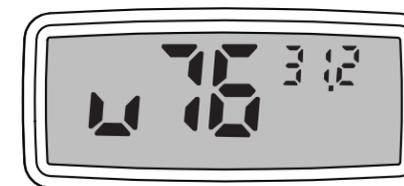

Figure 13 Calibration Mode screen
- Press the II button (on the right) once to get the Calibration Mode screen (Figure 13).
Figure 13 shows that the PAWKIT is ready to have its calibration adjusted up for the 0.76 standard. The number in the upper right corner indicates the water activity measurement that the PAWKIT just read. Press the II button to scroll through the other selections. They are: u76, d76, u25, d25, Sto, u92, and d92. The u and d before each number stand for up or down adjustment for each standard. The numbers (25, 76, and 92) correspond to the water activity of a verification standard (0.76, 0.25, and 0.92  $a_w$ ). The Sto position stores a reading.